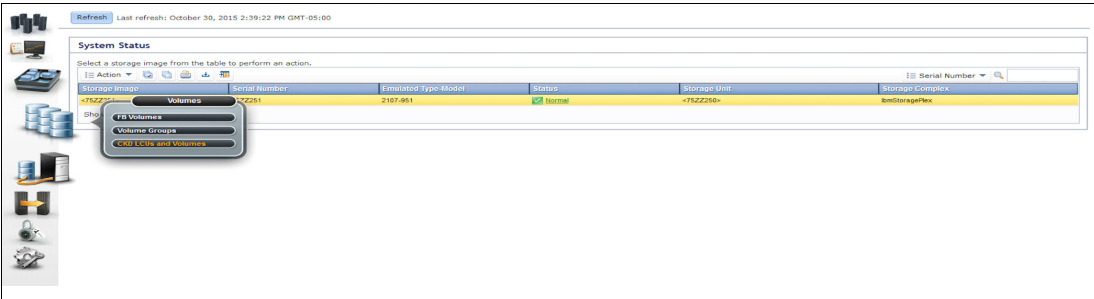

Figure 6-16 Selecting CKD LCUs
1. We select **Volumes** → **CKD LCUs** and **Volumes**, as shown in Figure 6-16.